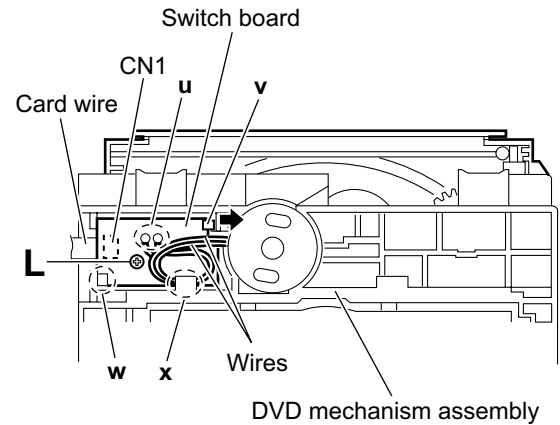

Fig.14
(See Fig.14.)
(See Figs.14 and 15)
- (1) From the bottom side of the DVD mechanism assembly, remove the wires from the soldered section **u** on the switch board. (See Fig.14.)
Put the wires on the section **x** after attaching the motor to the DVD mechanism assembly. (See Fig.14.)